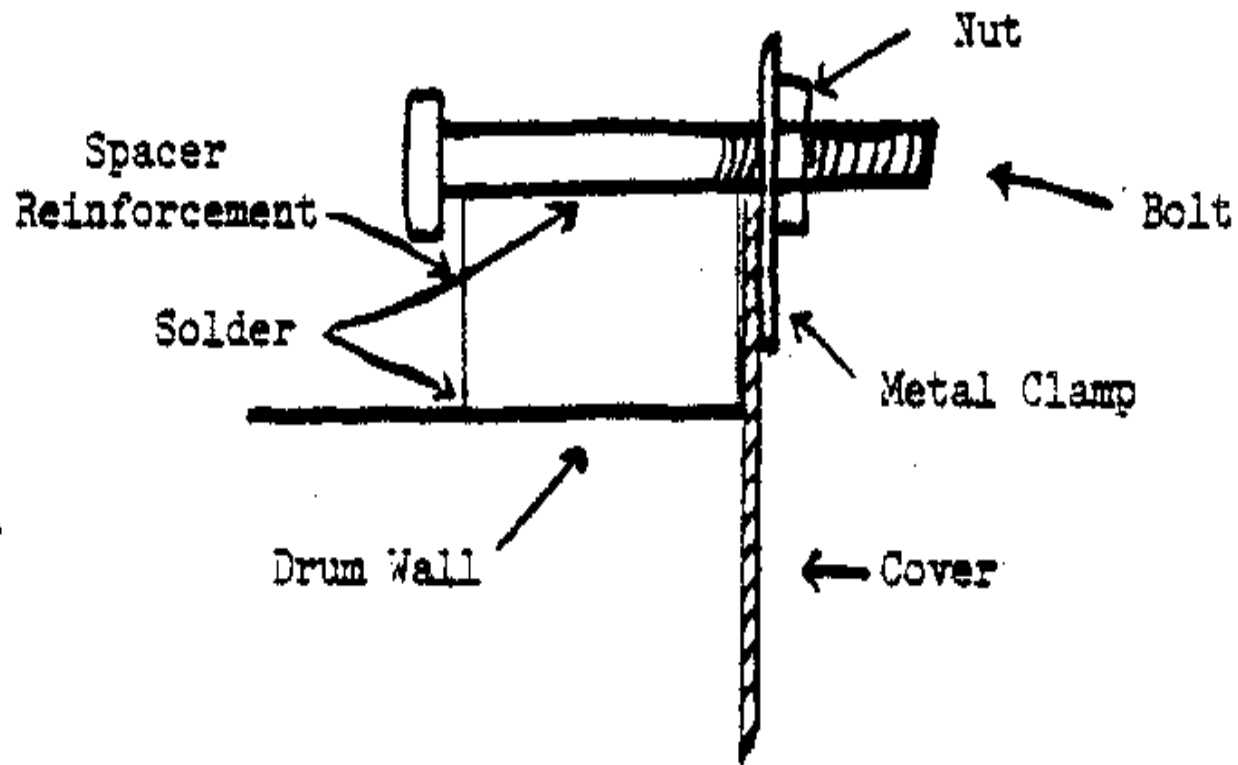

Figure 3
*** Use fairly heavy sheet metal to make two covers. These covers fit over the open ends of the chambers. They should be 9cm larger in circumference than the drums. <see figure 3>**